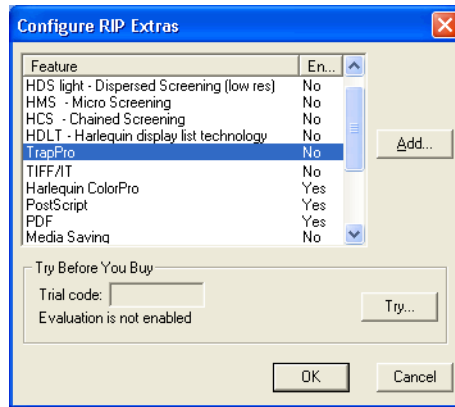

Figure 2.2 Select TrapPro in Extras
2. Click the **Extras** button to open the Configure RIP Extras window, shown in Figure 2.2.